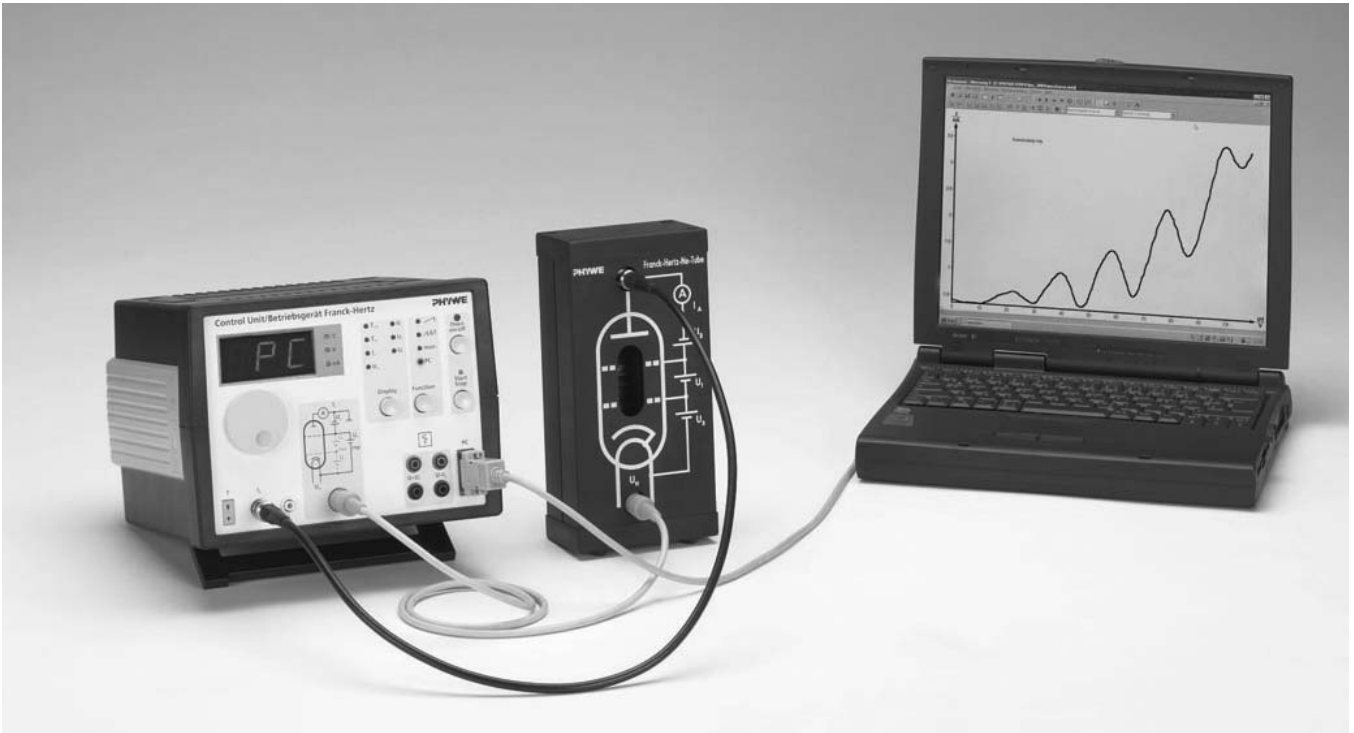

Fig. 7: Complete set-up for Franck-Hertz experiment with the neon tube and a PC.
A) Connect the components as described in section 3.2 (see Fig. 7). Turn on the Control Unit at the on/off switch. Set to "PC" with pushbutton (3).